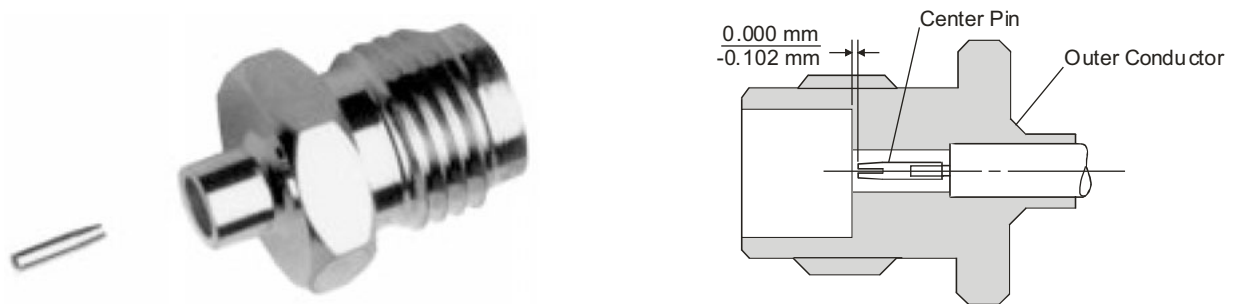
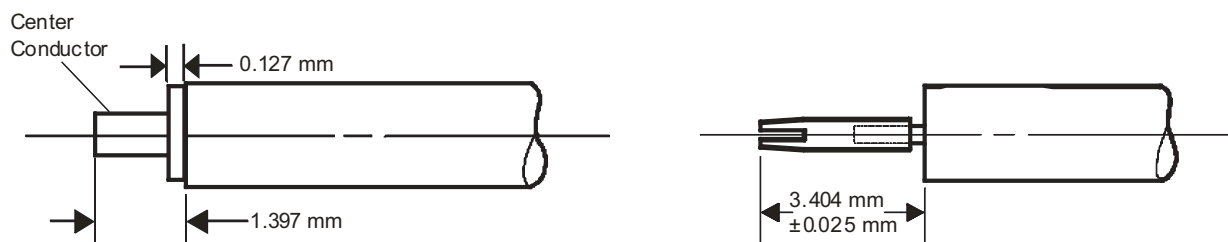

Figure 1-1. V101F-R Assembly
Figure 1-3. V101F-R Cable Preparation and Center Pin Assembly
Fabrication instructions for the cable assembly are given below. Refer to Figure 1-1 and Figure 1-3 to identify the connector parts referenced in the procedure.
7. Using an X-Acto knife or razor blade, cut the Teflon dielectric flush with the fixture. Do not score the center conductor. After cutting, the Teflon dielectric should protrude 0.127 mm from the outer conductor (Figure 1-3, left).
9. Using a cutting tool, cut the center conductor flush with the fixture. After cutting, the center conductor should protrude 1.397 mm from the outer conductor (Figure 1-3, left).
12. Using an X-Acto knife or razor blade, carefully remove the Teflon dielectric behind the center pin flush with the outer conductor (Figure 1-3, right). Do not score the center conductor.